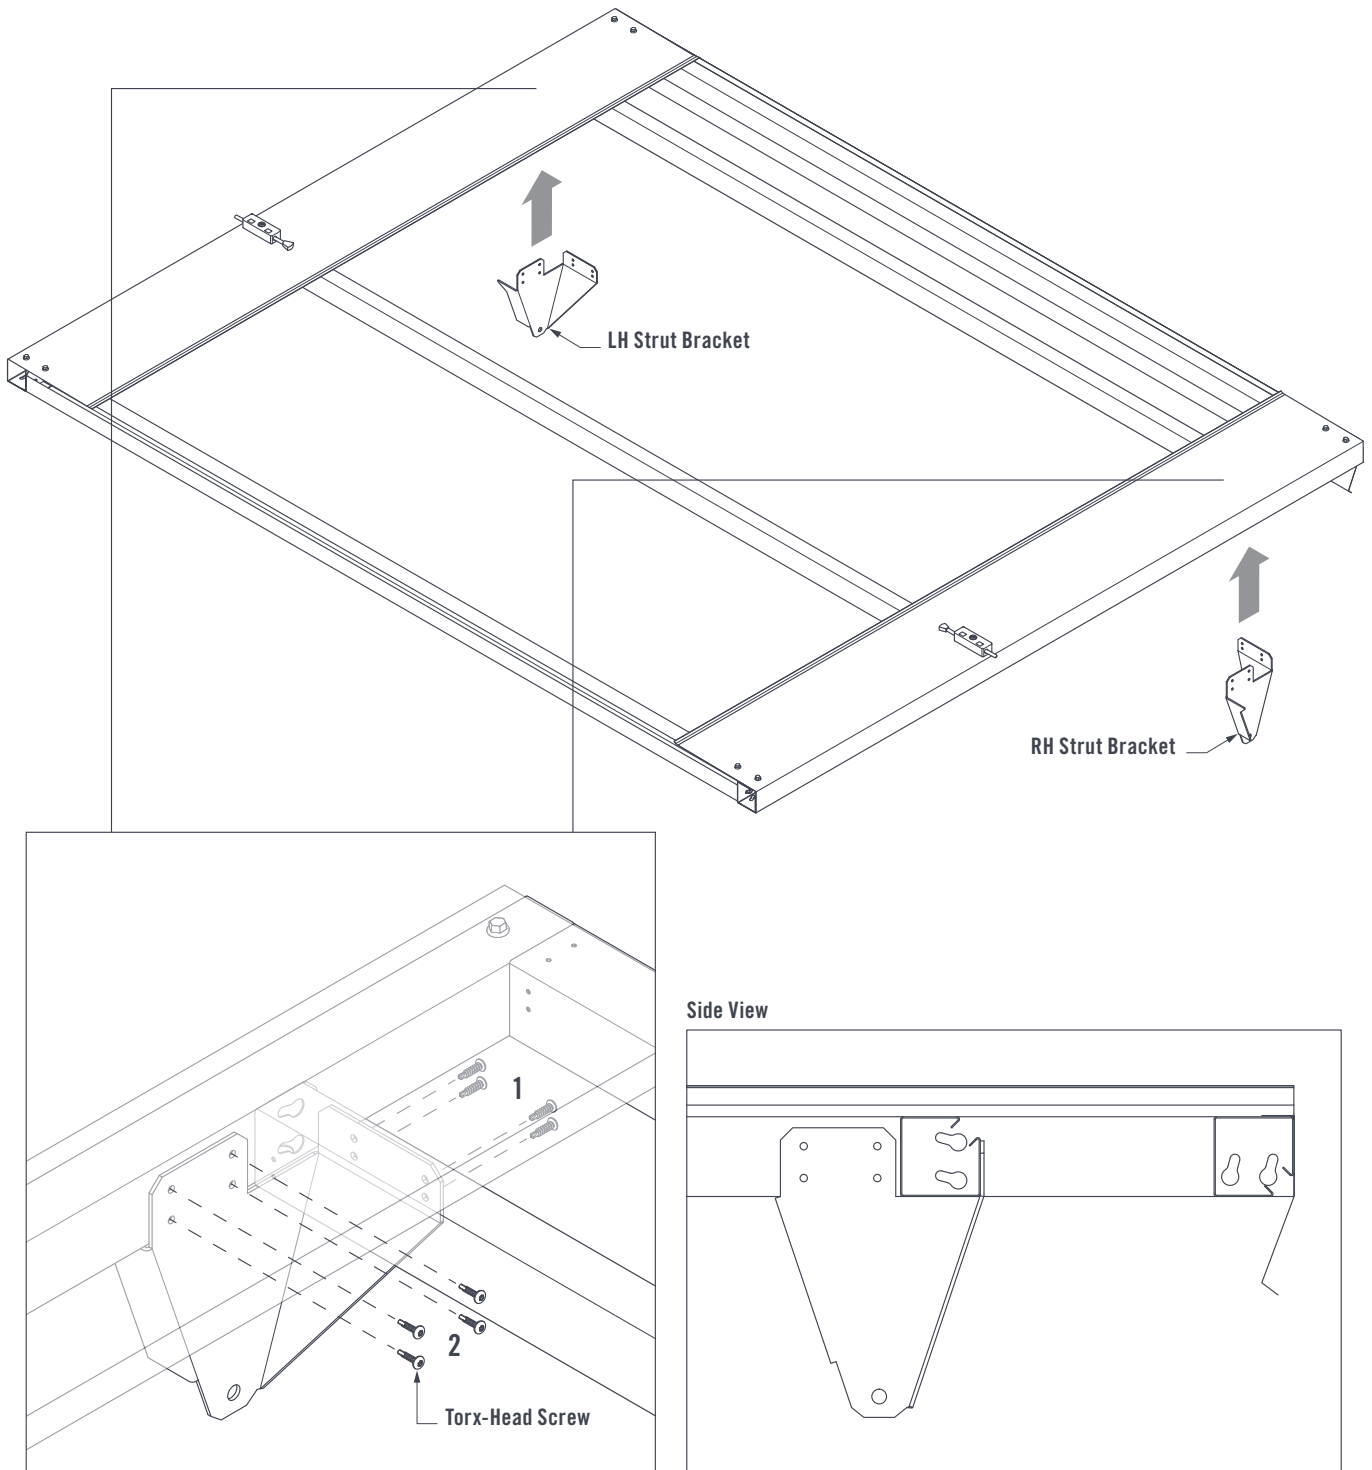

FIGURE 9.1
Fit the LH and RH Strut Brackets to the Door Frame Assembly. Fasten the Strut Brackets to the Frame using four Torx-Head Screws through the pilot holes provided in the top leg of the bracket (1), then use four Torx-Head Screws through the pilot holes in the side of the Bracket (2) (Figure 9.1).